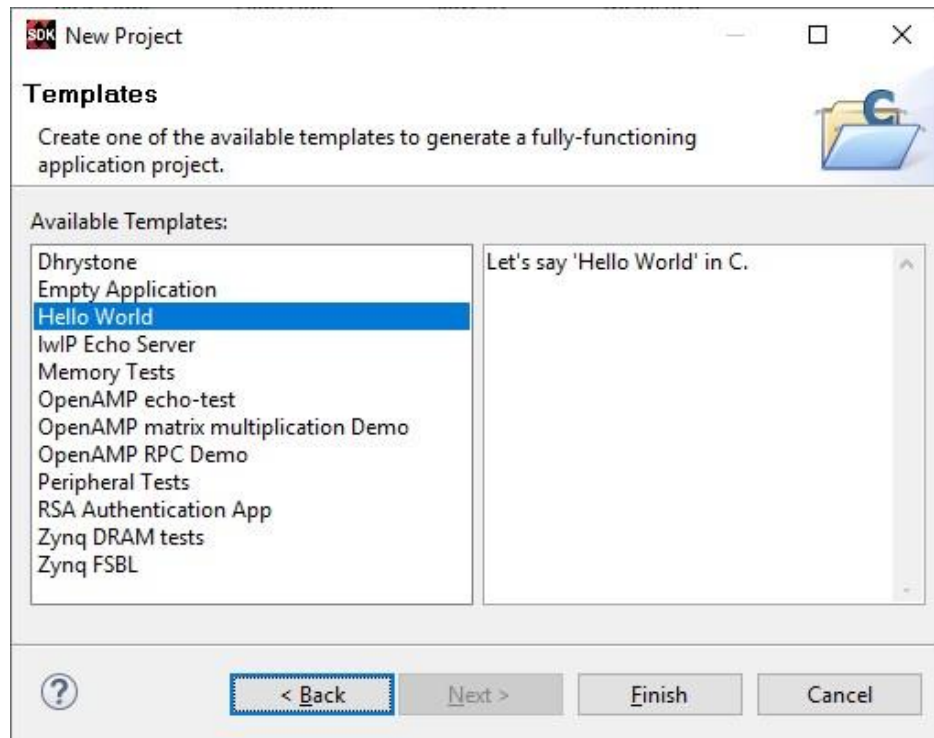

Figure 26: Selecting the new project template.
- From the available templates, select **Hello World** (Figure 26), and click **Finish**.